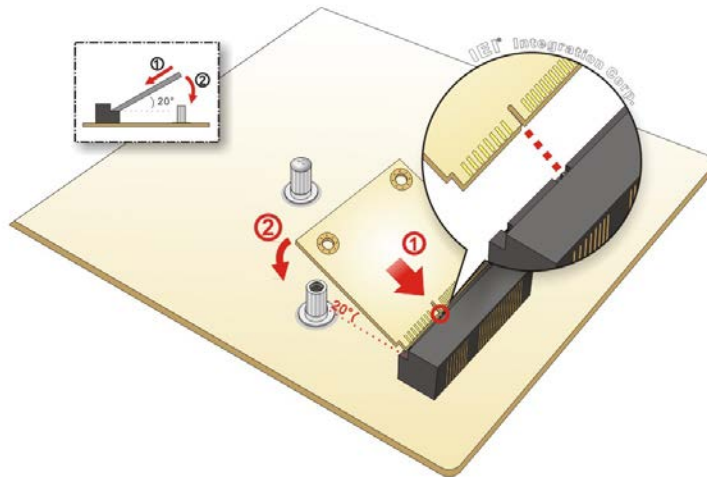

Figure 3-15: Inserting the Half-size PCIe Mini Card into the Slot at an Angle
Step 4: Line up the notch on the card with the notch on the slot. Slide the PCIe Mini card into the socket at an angle of about 20° (**Figure 3-15**).